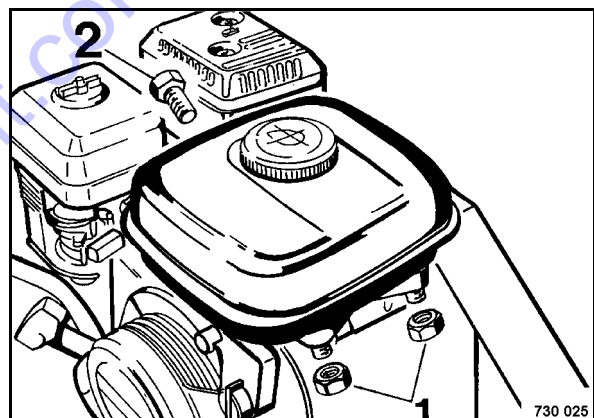

Fig. 57
- For this purpose unscrew hexagon nut (1) (Fig. 57) and hexagon screw (2).